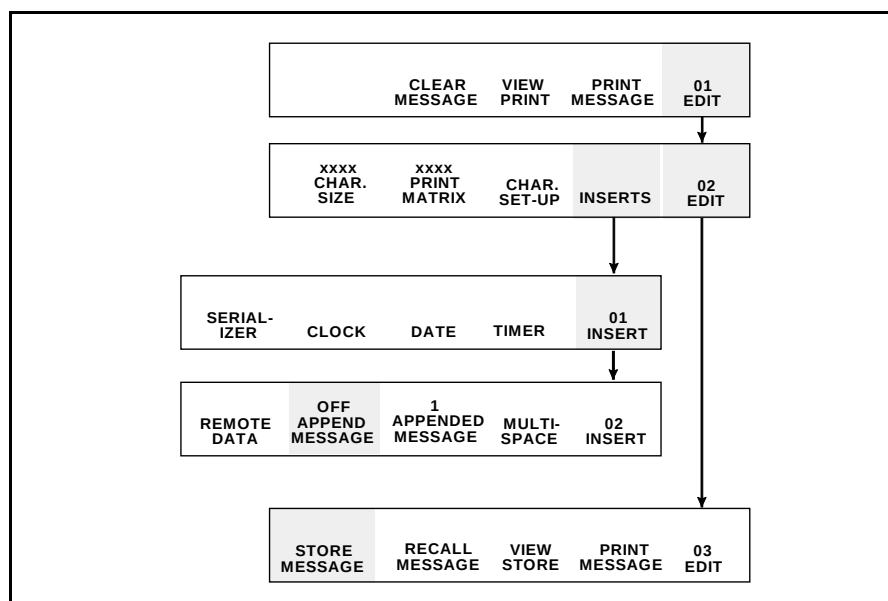

Figure 6-39. Accessing Frame <03 EDIT>
4. Go to Frame <03 EDIT>. Refer to Figure 6-39.
8. Go back to Frame <01 EDIT>. Refer to Figure 6-39.
11. Go to Frame <02 INSERT>. Refer to Figure 6-39.